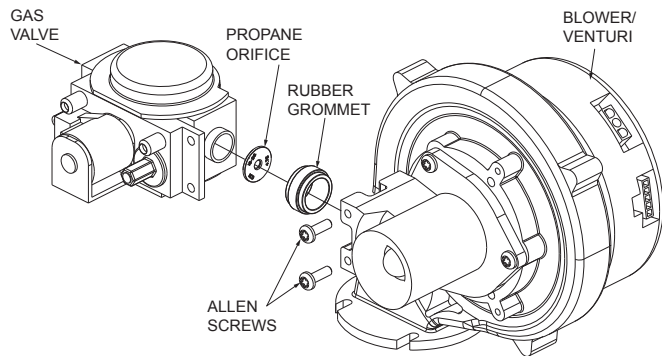

Figure 47. Gas Train Assembly 88AR thru 108AR
1. Remove the two Allen screws holding the Gas Valve to the Venturi/Blower assembly. See Figure 47.